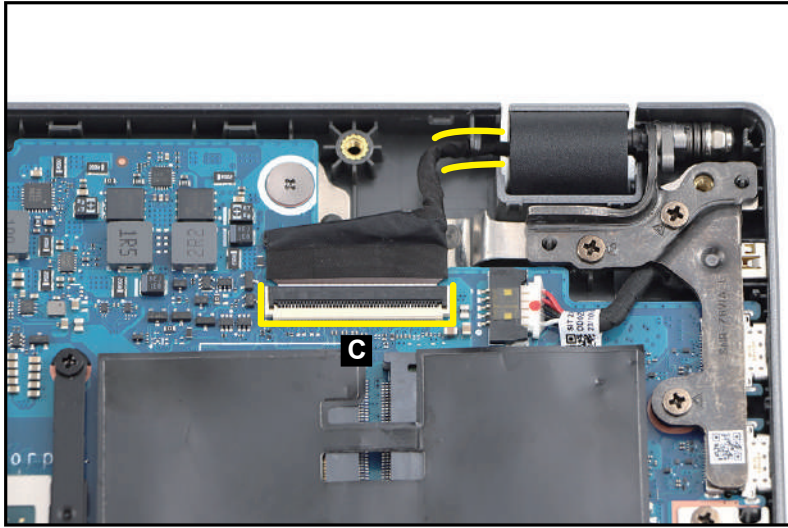

Figure 3-138. Replacing the LCD Module
3. Route the LCD cable through the cable guides on the top assembly. Then connect the cable to the mainboard connector (C) (Figure 3-138).